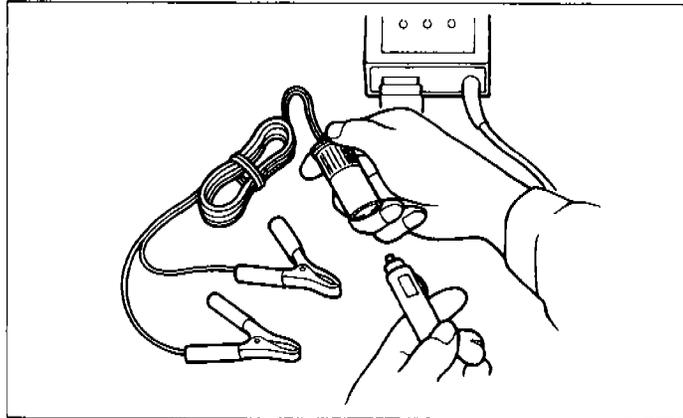

Fig. 2-6
- a: Hook the NGS tester power cable up directly to the battery using the Battery Hookup Adapter (Fig. 2-6).